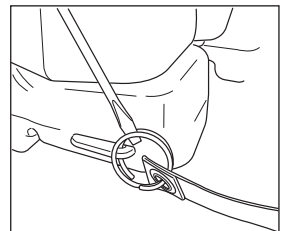

Figure 1.
1. Use a flat blade screwdriver to spread the rings on the end of the shoulder straps. Insert the rings into the holes on the tank base tabs. Turn the ring until it is completely through the holes. Make sure the straps are not twisted. **See Figure 1.**